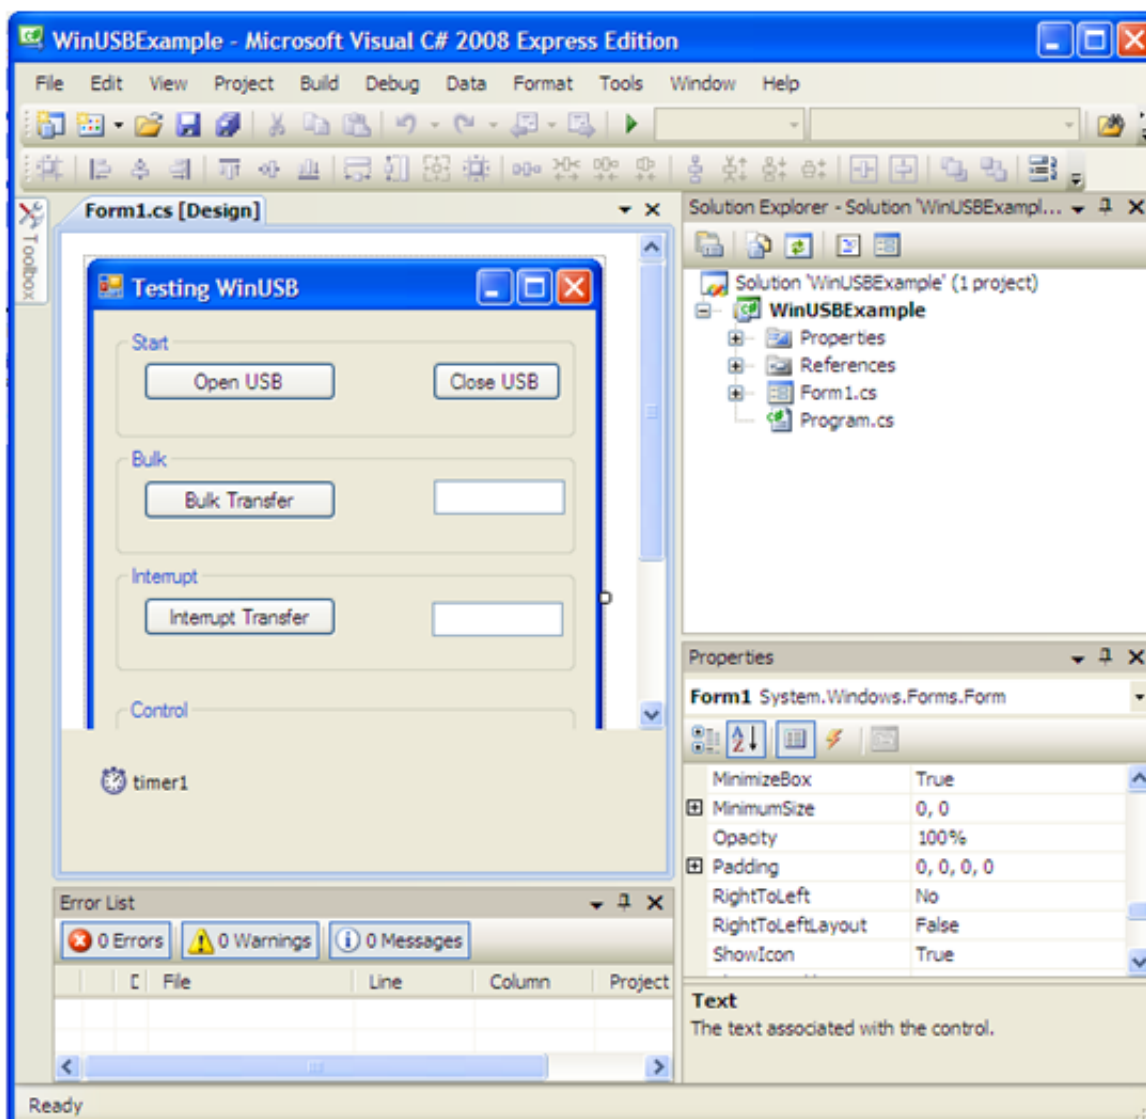

Figure 9. C# project source code
1. Go to “WinUSBExample in C#\WinUSBExample\WinUSBExample.sln” from AN4378SW.zip. Open it with VSC#2008. WinUSBExample project is shown in Figure 9.